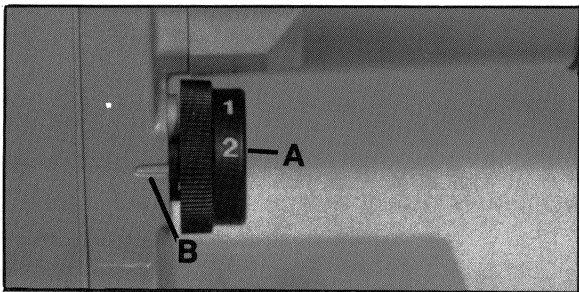

Fig. 5
The blade orbit may be varied by turning knob (A) Fig. 5, to any of four positions indicated by the numbers "0" through "3", with "0" producing no orbit and "3" producing maximum orbit. The orbit may be adjusted with or without the motor running. Turn knob (A) Fig. 5, to align the number producing the desired orbit with the index mark (B) Fig. 5.